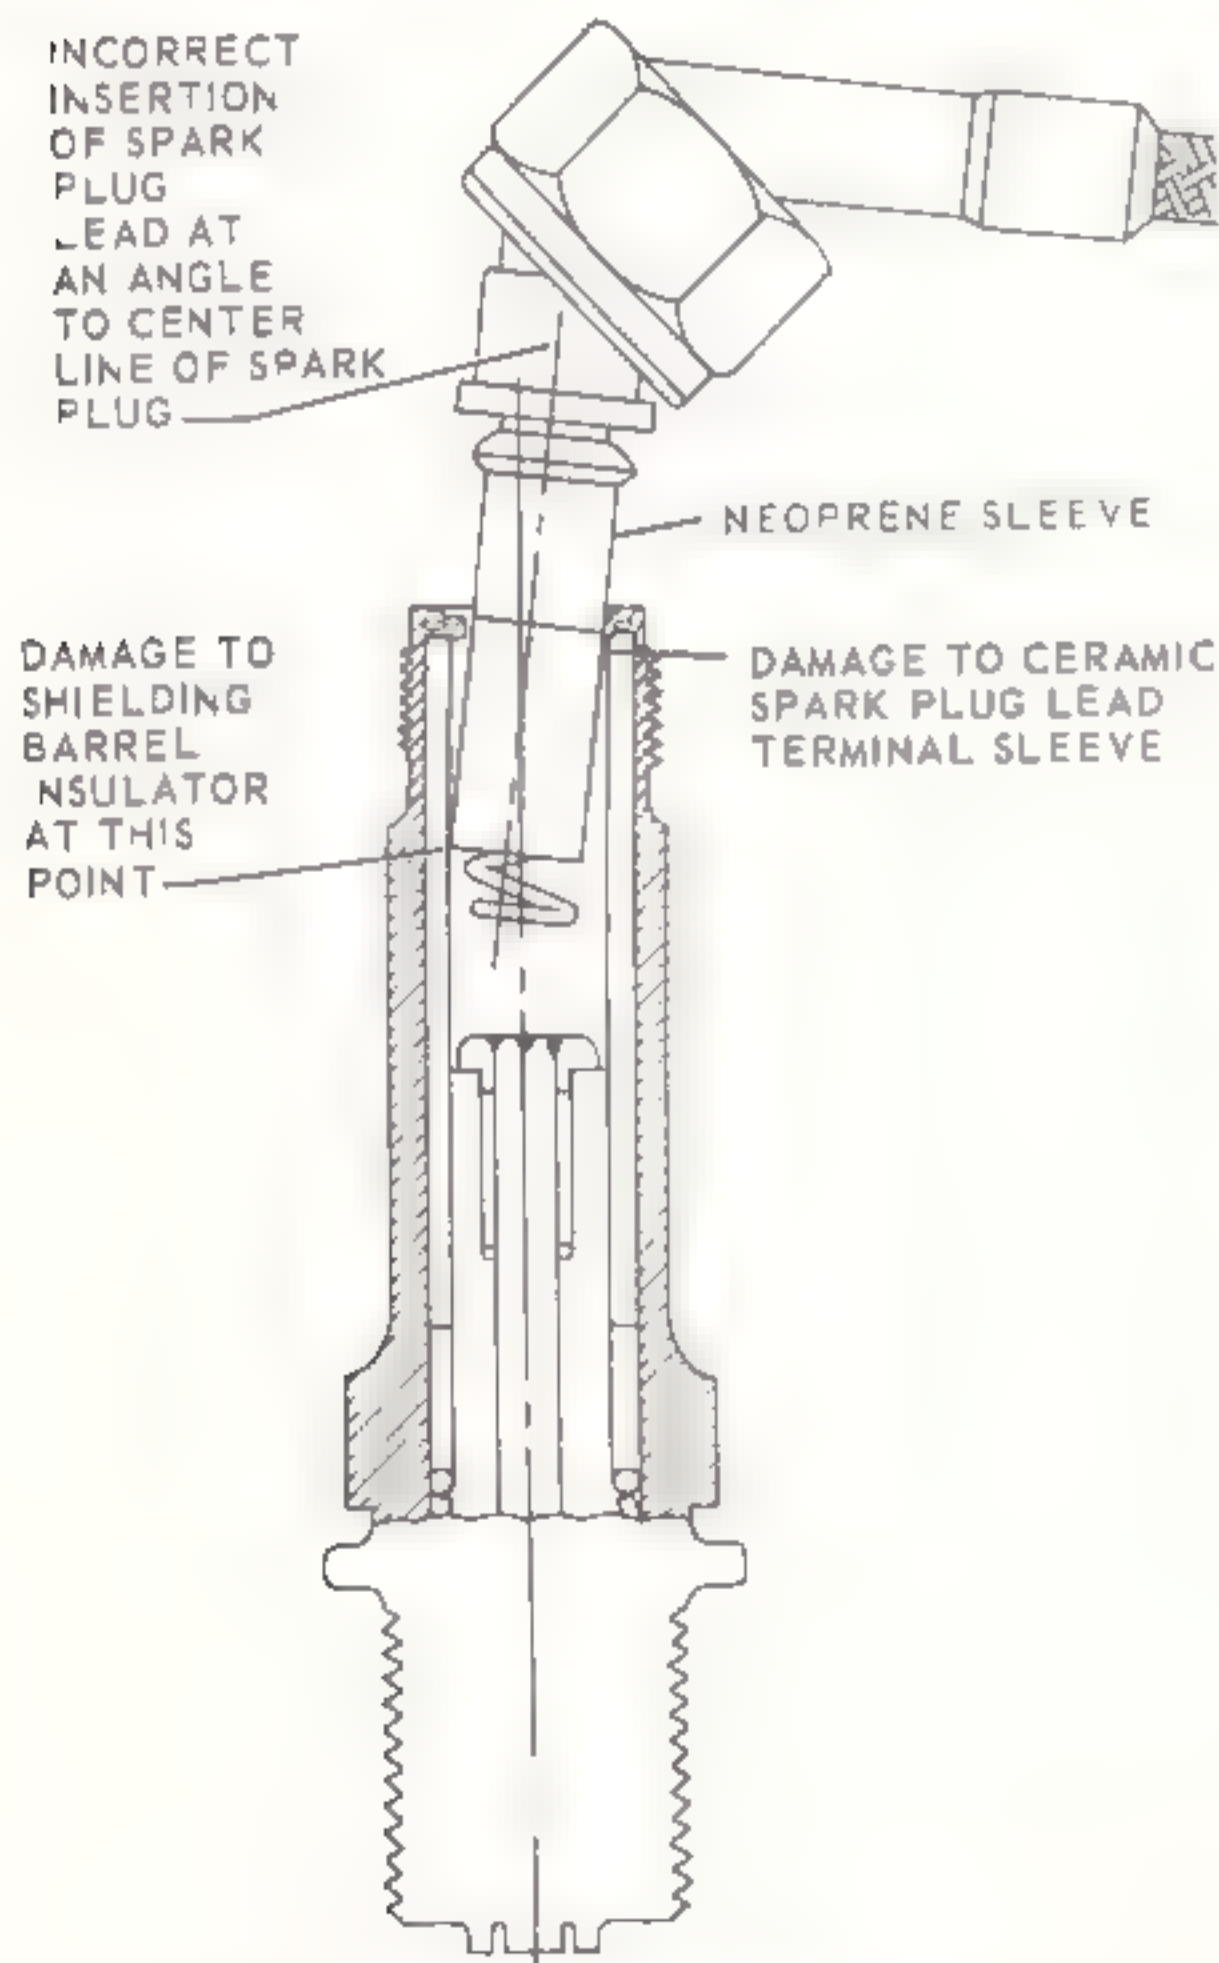

Figure 5-73. Results of improperly installed spark plug lead
When withdrawing spark plug lead connector from spark plug, care must be taken to pull spark plug lead connector straight out and in line with centerline of spark plug barrel; otherwise, a side force is applied which may cause damage to the barrel insulator (spark plug) and spark plug lead connector. Should the spark plug lead connectors be difficult to remove in this manner, the resisting contact between the neoprene sleeve and the barrel insulator can be broken easily by twisting the neoprene sleeve. (See figure 5-73.)
j. Insert spark plug connector into barrel of spark plug without touching spring and eyelet assembly, and terminal sleeve. (See figure 5-73.)